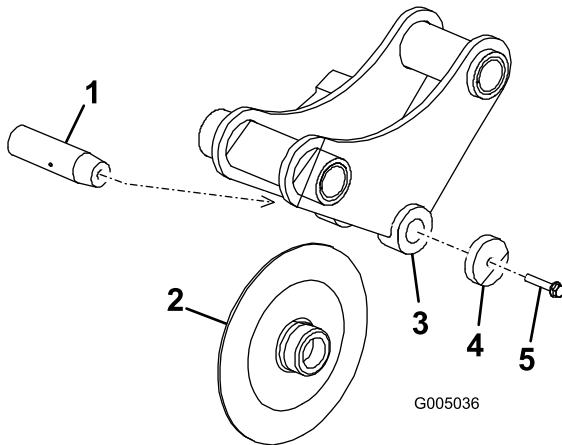

Figure 15
1. Back out the coulter pin screw about 0.5 inch (1.3 cm), then strike it several times with a hammer to loosen the pin (Figure 15).
2. Completely remove the coulter pin screw, washer, coulter, and coulter pin (Figure 15).
3. Put the new coulter into the coulter bracket (Figure 15).
4. Slide the coulter pin through the bracket and coulter and secure it with the coulter pin screw and washer (Figure 15).